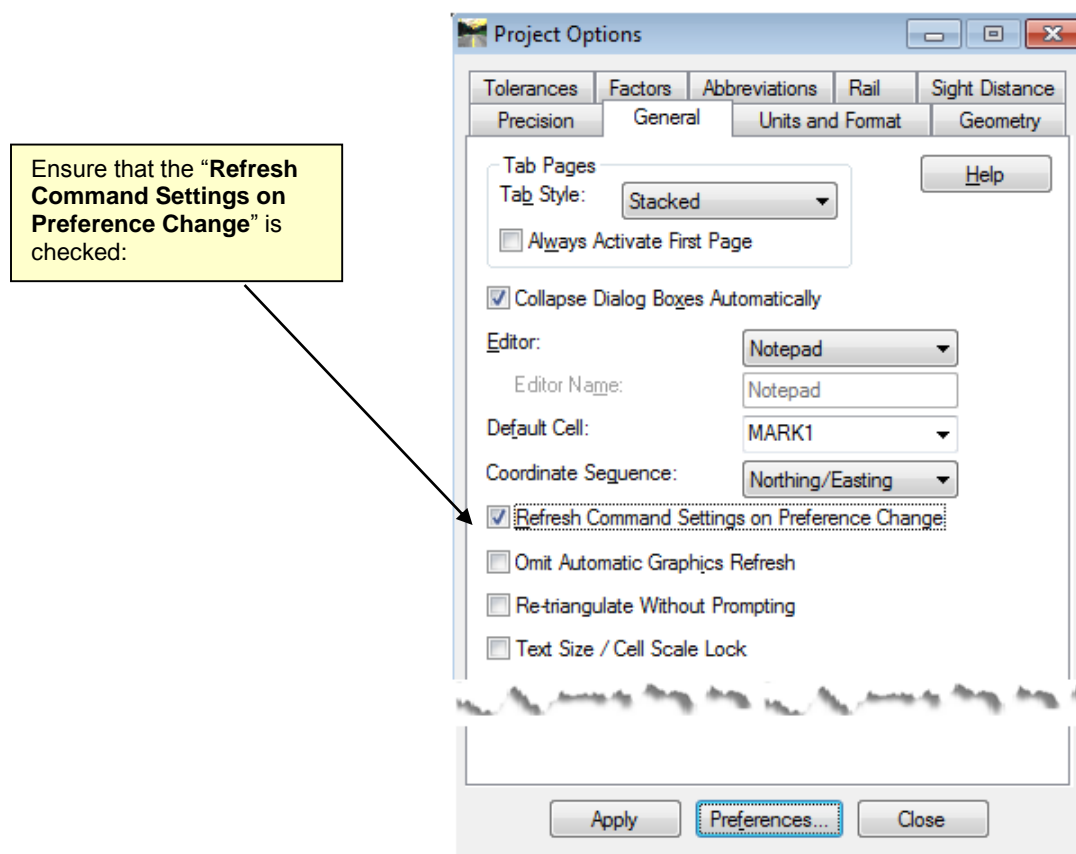

Figure 1-7 Survey Default Settings
5. The **Survey Default** Preference should now correspond to the screen capture depicted in *Figure 1-7* (as shown below).